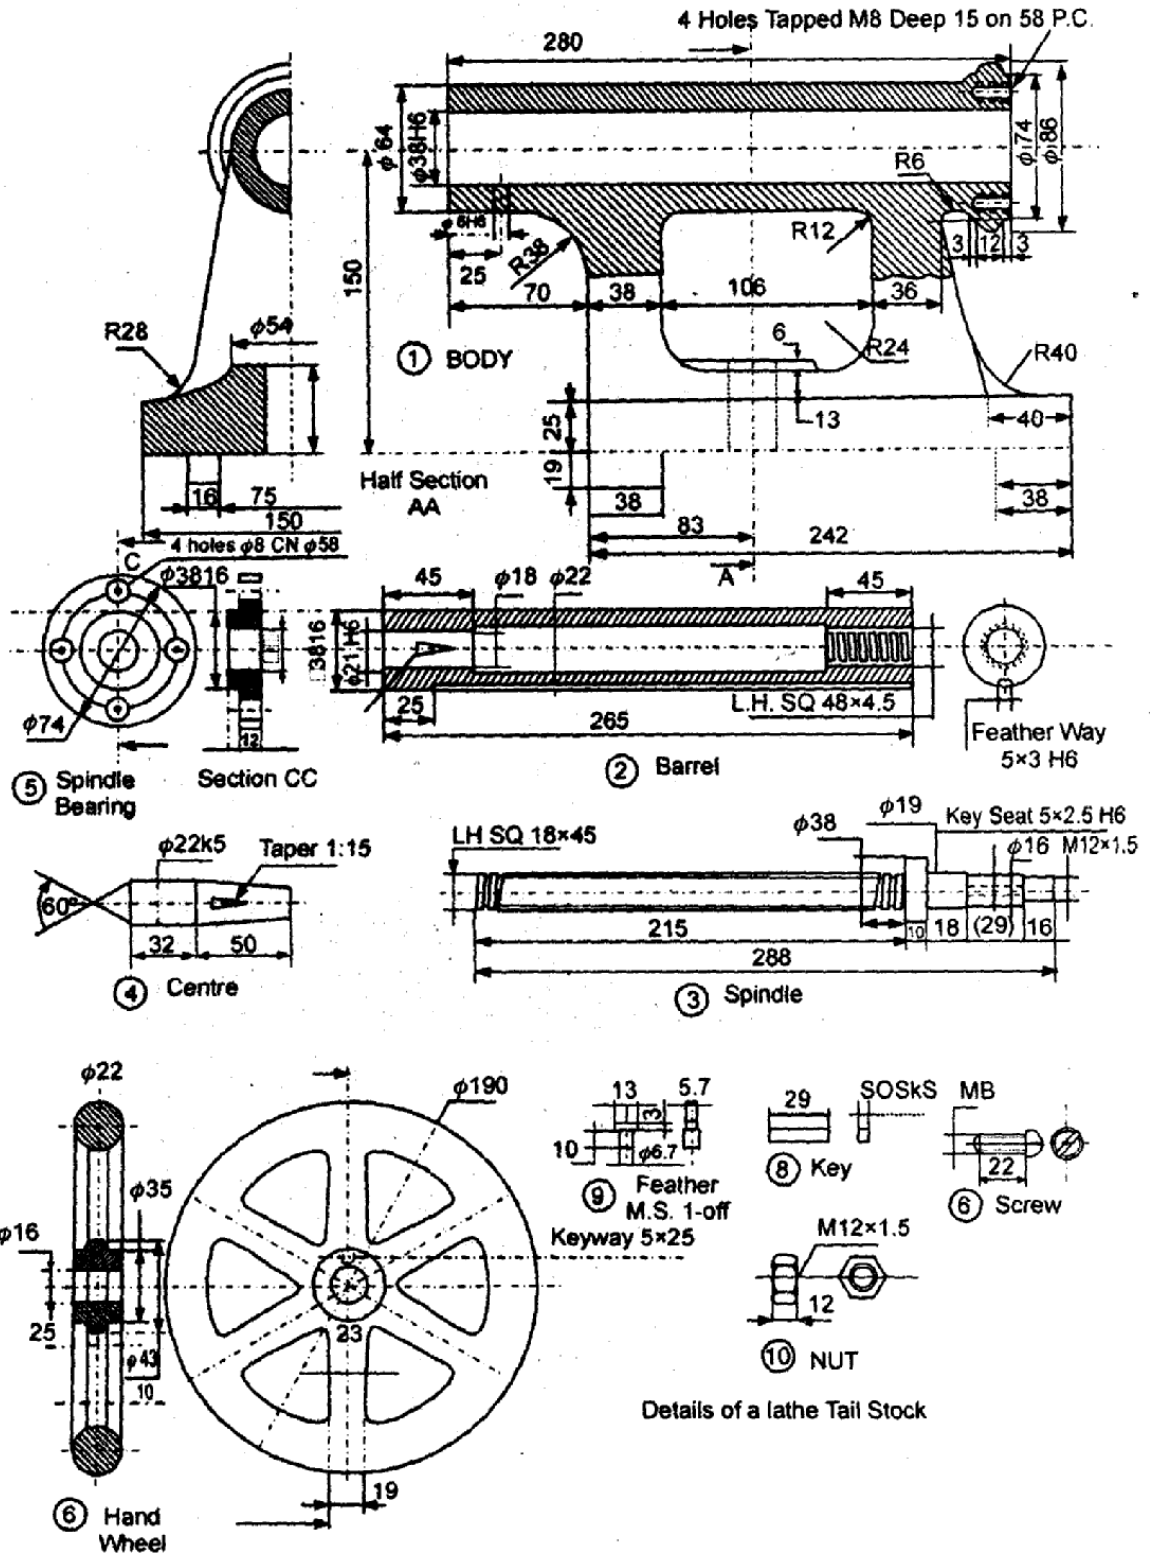

Fig.4
9. Fig 4. Shows the detail of lathe tail stock, assemble the part and draw the following views: (a) Front view half in section (b) Write side end view.